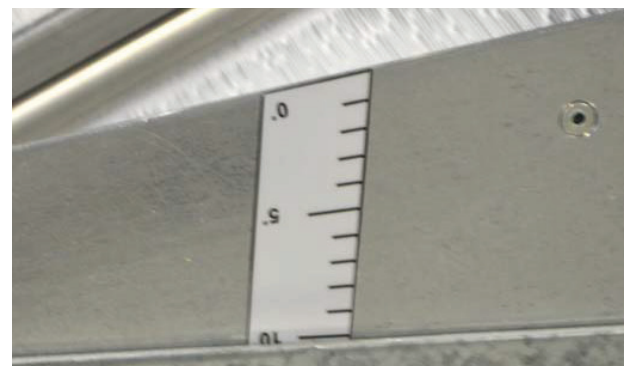

Fig. 26 — Set Purge Angle
2. Adjust purge sector to the specified angle (Fig. 26).